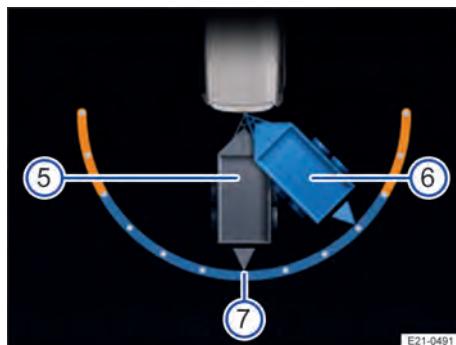

Fig. 122 On the instrument cluster display: adjusting the direction of travel of the trailer.
A diagram showing the current position of the trailer appears on the instrument cluster display for orientation purposes → Fig. 122 ⑤.
5. Use the rotary knob to correct the angle to the left ② or right ③ if necessary.